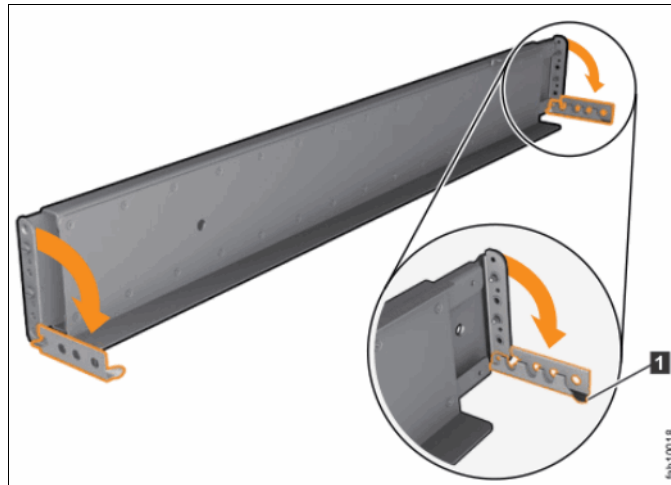

Figure 6-2 Opening the rail hinge brackets
- At each end of the rail, grasp the tab **1** and pull firmly to open the hinge bracket. See Figure 6-2.